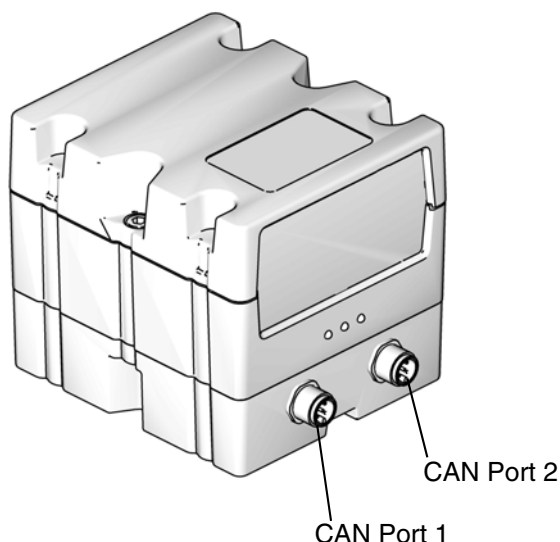

FIG. 20: CGM CAN Connections
- Connect the other end of the CAN cable to either CAN port 1 or 2 on the CGM. See **Figure 20**. It can be connected to either port.